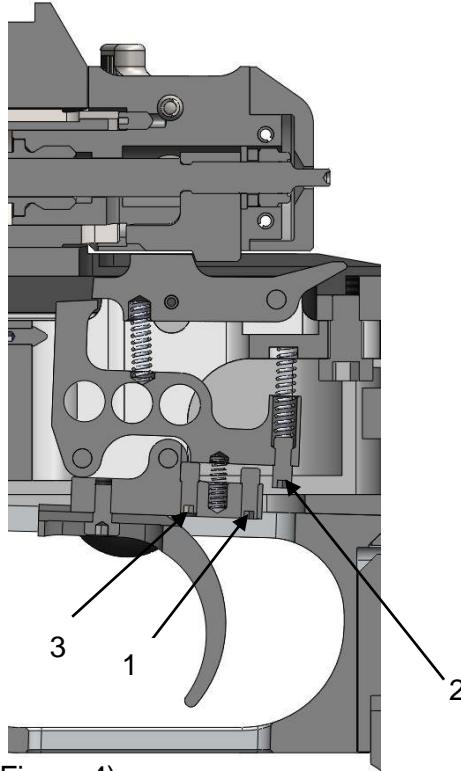

Figure 4
2.5.2.1 Adjusting trigger take-up (Figure 4)
2.5.2.2 Adjusting breaking point (Figure 4)
2.5.2.3 Adjusting trigger pull (Figure 4)